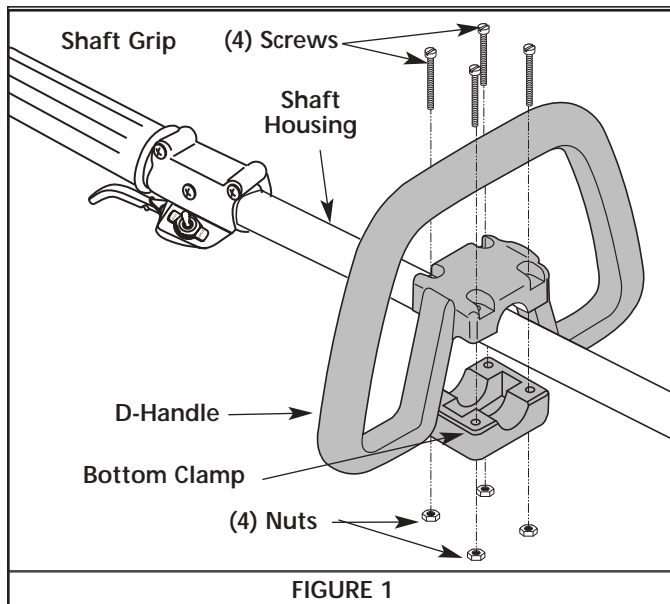

FIGURE 1
1. Remove the four (4) screws and four (4) hex nuts with a Phillips screwdriver.
2. Remove the D-handle and bottom handle clamp on the boom shaft. See Figure 1.